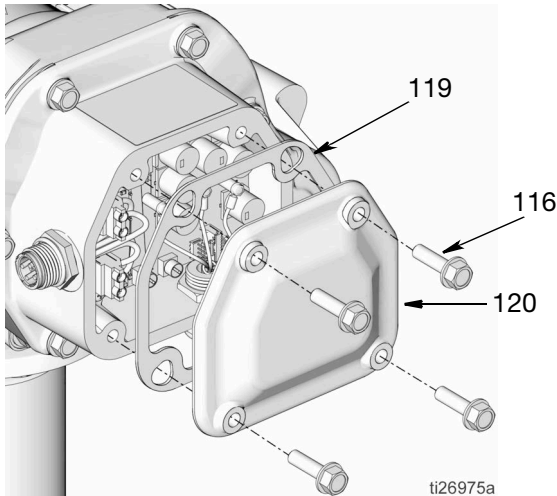

FIG. 17
1. Remove screws (116), cover (120) and gasket (119) to access the control board (FIG. 17).